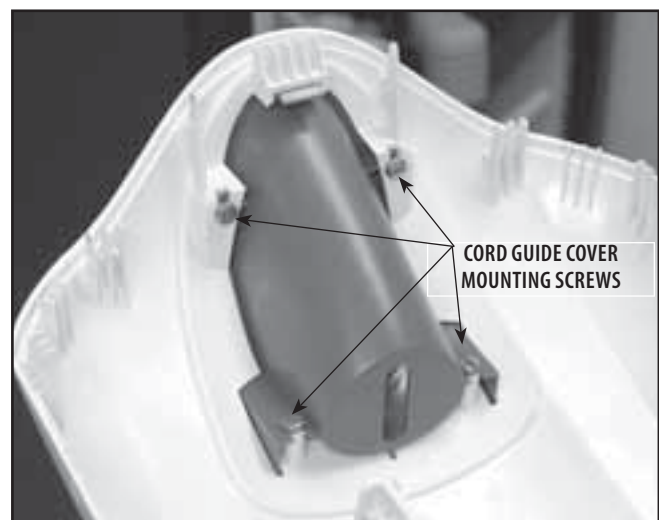

FIGURE 6.6
5. Carefully lift the Top Cover away from unit and position into Touch Screen to Cover Assembly Jig. See Figure 6.6.
6. Using the #2 Phillips Screwdriver, remove the four Cord Guide Cover Mounting Screws. See Figure 6.6.
1. With Top Cover positioned onto the Touch Screen to Cover Assembly Jig, place the Cord Guide Cover into position. Secure with the four Cord Guide Cover Mounting Screws. See Figure 6.6.